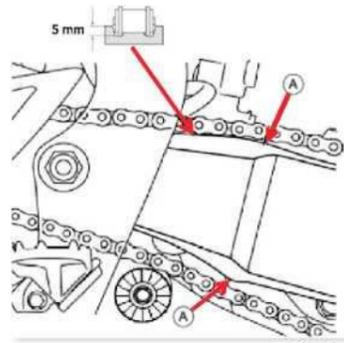

Fig. 1
1. Check the swing-arm chain slider *Q* for wear and/or damage. Fig. 1
OFF - In this position, the fuel tap is closed. No fuel can flow to the carburetor. Fig. 1